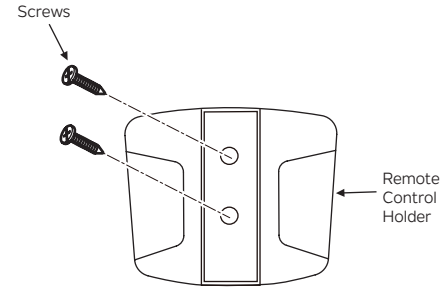

Fig. 24
Step 1. Attach the remote control holder with the two remote control holder mounting screw provided. (Fig.24)